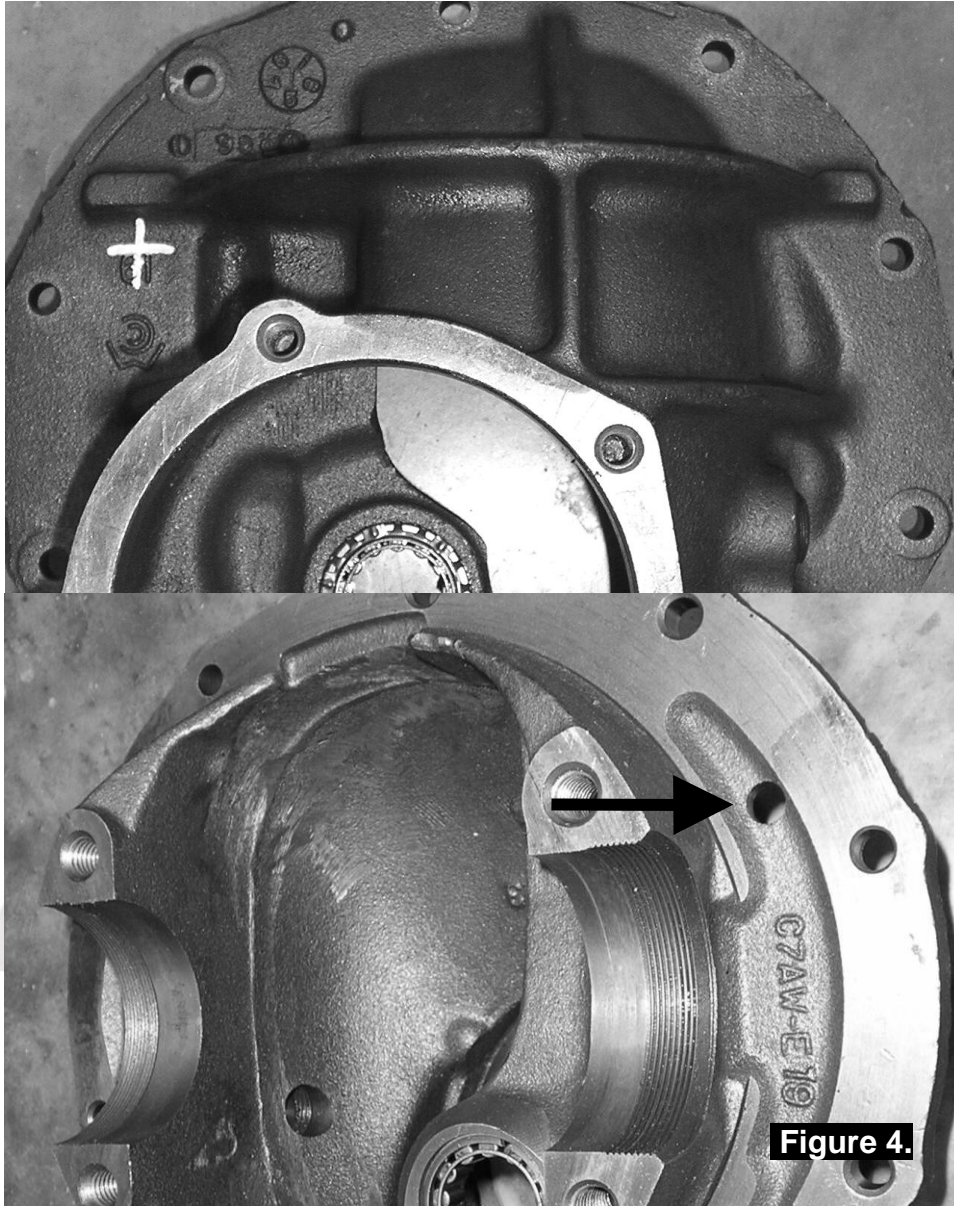

Figure 4.
- Mark a spot on the third member casting in the position shown in Figure 4.